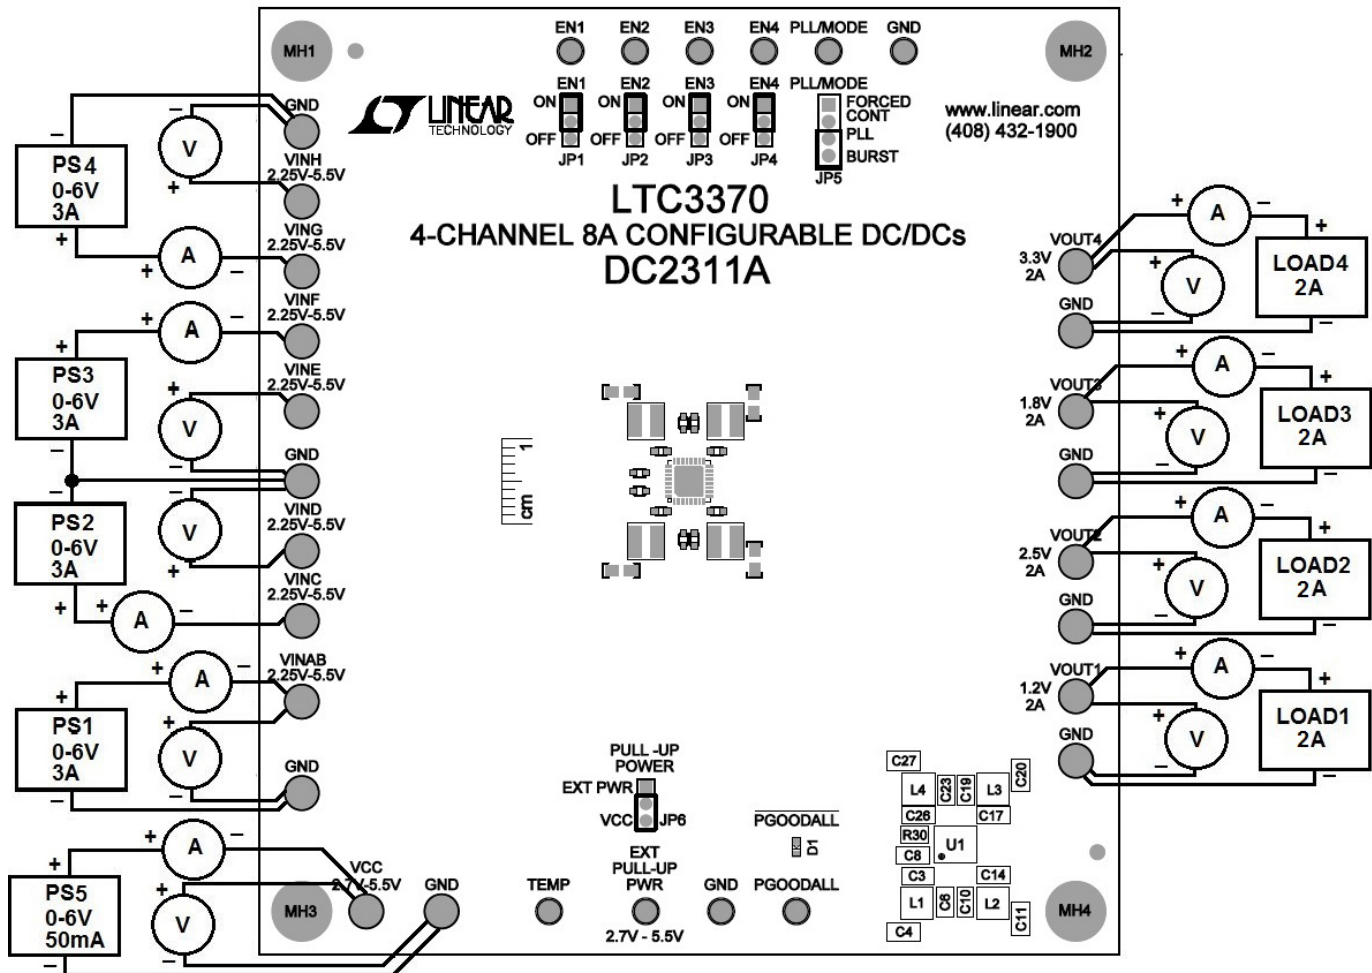
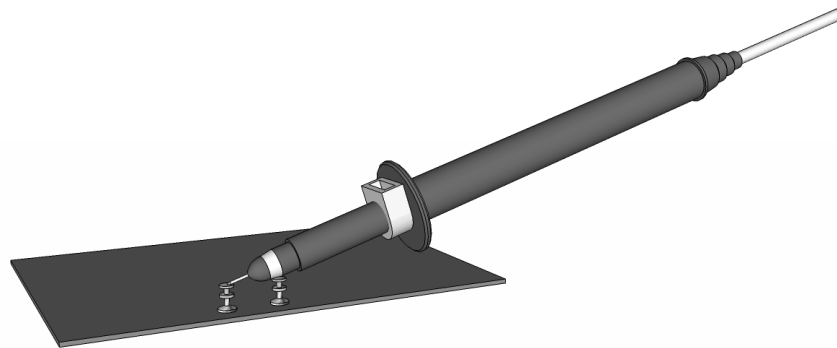

Figure 1. Proper Measurement Equipment Setup
Figure 2. Measuring Input or Output Ripple
The DC2311A is easy to set up to evaluate the performance of the LTC3370. Refer to Figure 1 and Figure 2 for proper measurement equipment setup and follow the evaluation procedure below.
NOTE. When measuring the input or output voltage ripple, care must be taken to avoid a long ground lead on the oscilloscope probe. Measure the input or output voltage ripple by touching the probe tip directly across the V_{IN} or V_{OUT} and GND terminals. See Figure 2 for proper scope probe technique.
4. With power off, connect a 0V to 6V, 50mA power supply (PS5) to V_{CC} input terminal and GND with a series ammeter and a voltmeter as shown in Figure 1.
7. With power off, connect 0V to 6V, 2A power supplies to each input pair (PS1-PS4), V_{INAB} , V_{INC}/V_{IND} , V_{INE}/V_{INF} , V_{ING}/V_{INH} and GND with a series ammeter and a voltmeter as shown in Figure 1. A single 0V to 6V, 10A supply can be used instead to supply all V_{IN} inputs and the V_{CC} input simultaneously.
9. With power off, connect a 0A to 2A load to V_{OUT1} and GND with a series ammeter and a voltmeter as shown in Figure 1.
10. Slowly increase the load from 0A to 2A and observe the output voltage. The output ripple may also be observed using an oscilloscope with the probe connected as shown in Figure 2.